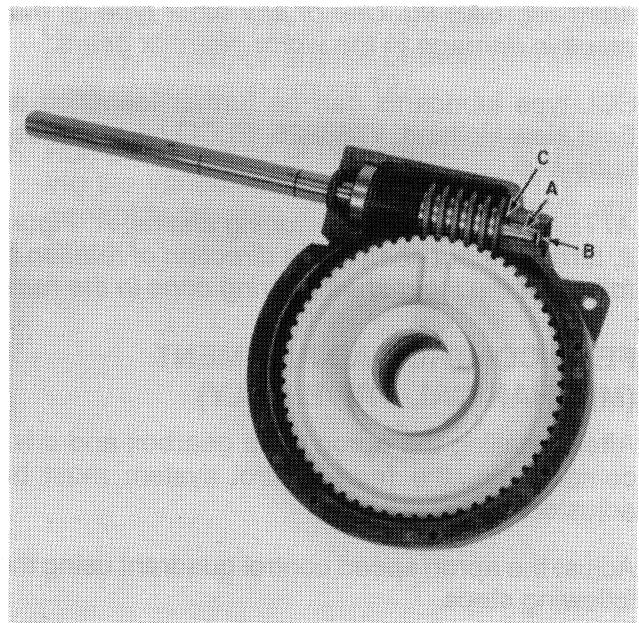

FIGURE 9
5. To replace the rear input shaft bushing, A, Figure 9, drive out expansion plug, B, and drive bushing, A, to the rear.
It is best to replace all seals if the gearbox is being repaired. Also check all bushings for wear. The only shimming required is between the rear of the worm and the gearbox at C, Figure 9. Reinstall the shims removed or shim to remove shaft end play without preloading the tapered bearing.
NOTE: Coat the edge of expansion plug, B, Figure 9, with #2 Permatex before installing.